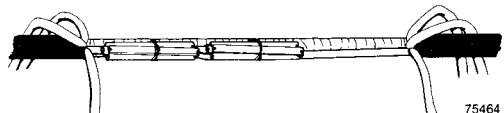

Fig. 85—Bundle second group to core.
- n. Splice second group, identify and bundle to core. See Figure 85.